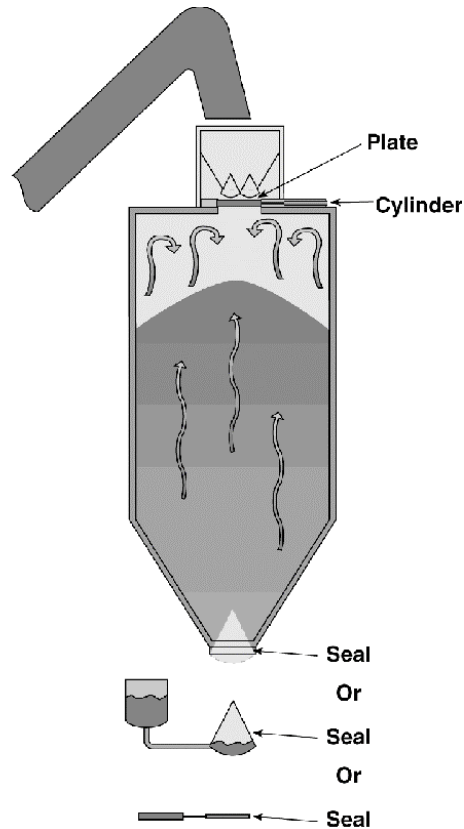

Figure 11.23 Bin top endgate seals stop air infiltration.
- § **Bin-Top Seals** - Seals at the silo opening directly below the batcher, as shown in figure 11.23, help eliminate any draft through the silo by sealing off the escape point.